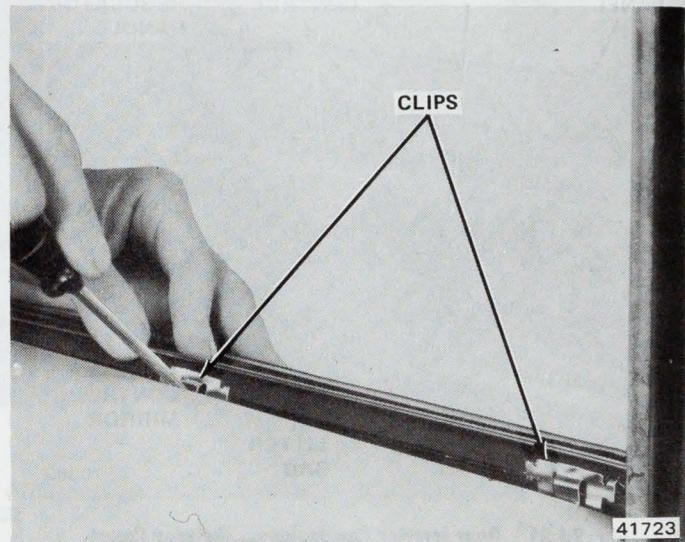

Fig. 3J-32 Clip Removal
- (1) Pull weatherstrip from door flange at retaining clips.
- (2) Insert screwdriver into retaining slots and slightly distort slots (fig. 3J-32).
- (3) Lift and remove weatherstrip.